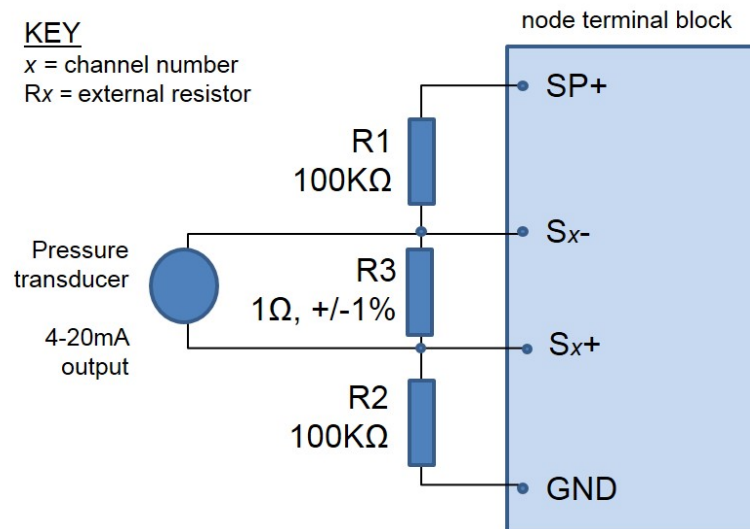

Figure 3 - Small Current Measurements for Differential Inputs
- a. Connect the pressure transducer to a differential analog input, as shown in *Figure 3 - Small Current Measurements for Differential Inputs*. Use resistors with tolerances of < 1% or with measured values within 1% of each other (in the case of R1 and R2) to ensure measurement accuracy.